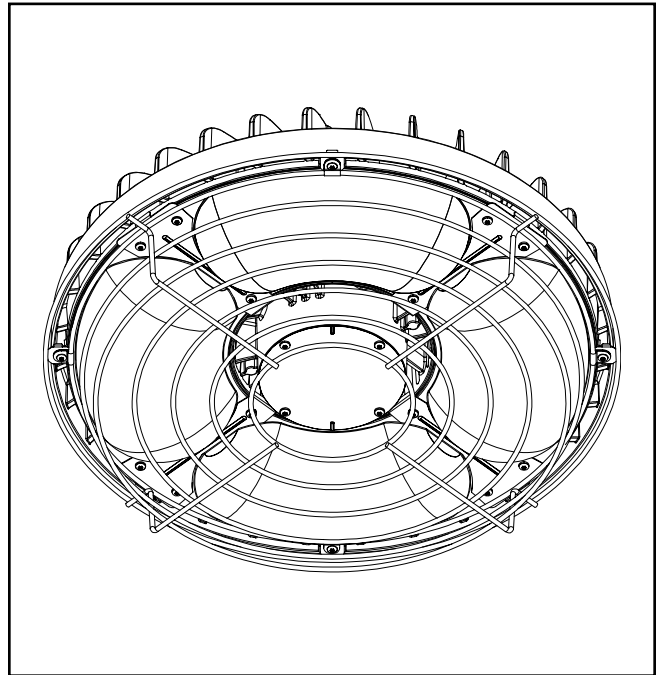

Figure 3.
3. Tighten all 4 screws to secure wire guard to heat sink as shown in Figure 3.